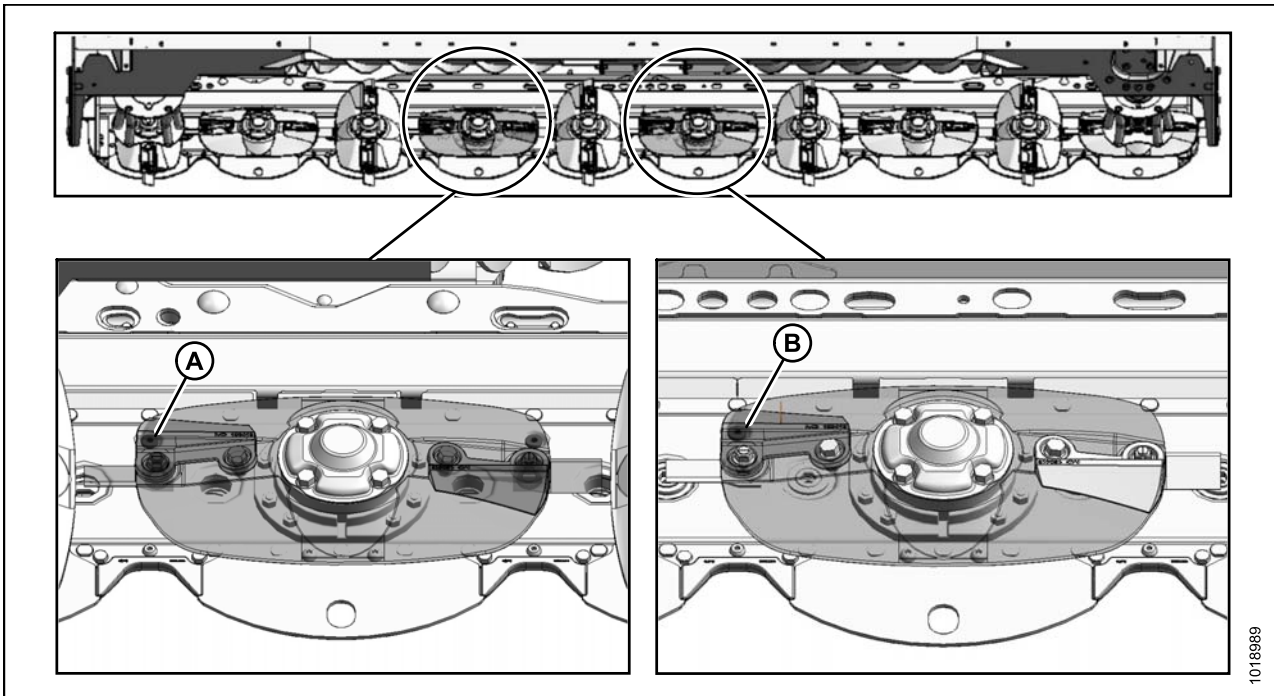

Figure 5.12: Cutterbar Filler Plug Locations
10. Locate the filler plugs (A) and (B) along the top of the cutterbar. Refer to Figure 5.12: Cutterbar Filler Plug Locations, page 134.